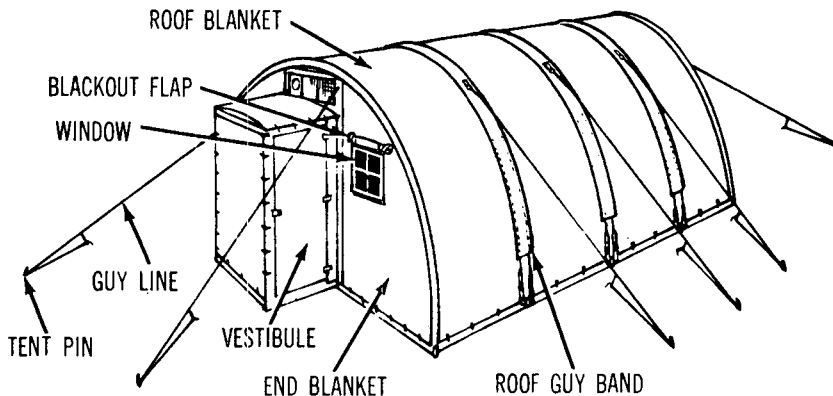

Figure 63. *Tent, frame-type, insulated, sectional.*
a. Use. The tent, frame-type, insulated, sectional, fire- and mildew-resistant, OD, complete with frame and floor (fig. 63), is designed to be used as a general purpose tent, or as a personnel shelter in cold climates.